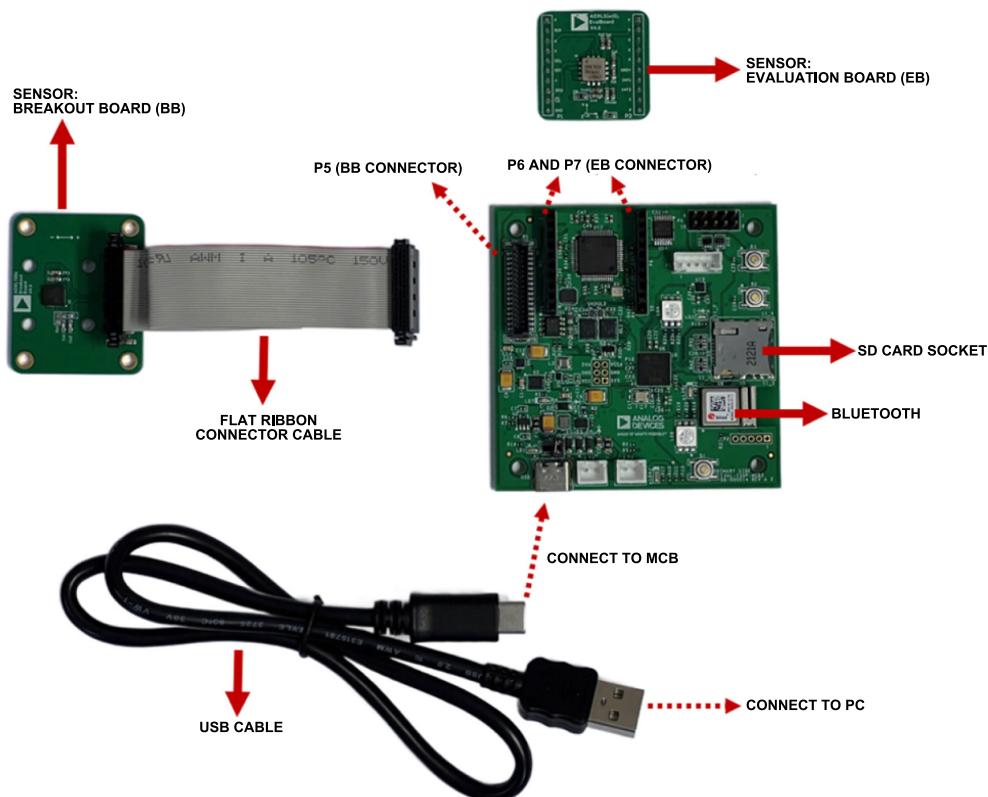

Figure 3. Hardware Setup
The most common hardware setup includes the MCB, USB cable, and the sensor (through the evaluation board (EB) or breakout board (BB)). A battery and SD card can be added to the MCB for saving the data independently from the PC platform. Figure 3 represents the hardware and two different sensors which have different boards (EB and BB). It is important to note that only one sensor can be connected to the MCB at a time, either through the EB or BB sensor connectors.
In Figure 3, the EB and BB interface connectors are located in the upper left side of the MCB. On the MCB silkscreen, P5 identifies